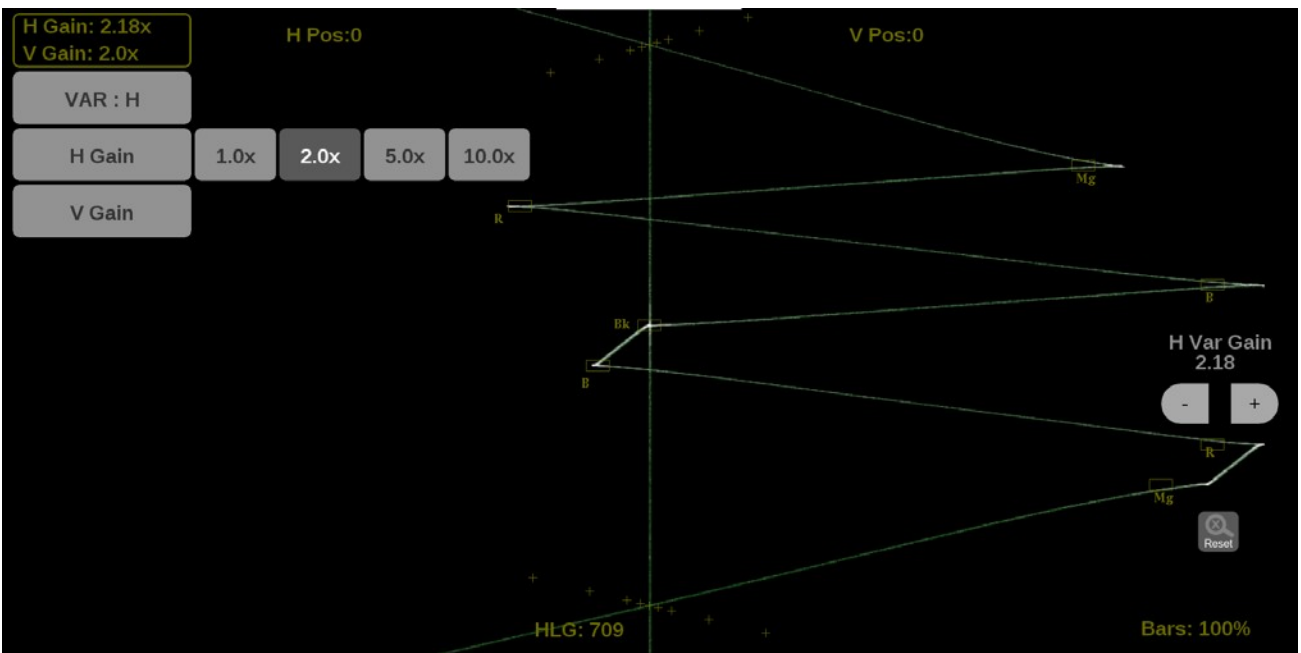

Figure 216: Lightning on-screen tools – horizontal gain
1. Select the button in the top left corner to expand the available options drop down list. (See Figure 216.)